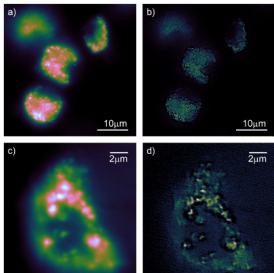

Figure 3. Fluorescence imaging of 90 nm nanodiamond in monocyte-derived macrophages. The nanodiamonds
Fig. 4. (a)–(c) Optically sectioned and (d)–(f) conventional images obtained from corresponding images shown in Figs. 3(d)–3(f) by post-processing with Eqs. (1) and (2), respectively. These are at different axial positions of (a,d) $\Delta z = 0 \mu\text{m}$, (b,e) $\Delta z = 73.9 \mu\text{m}$, (c,f) $\Delta z = 85.3 \mu\text{m}$, where the axial position of $\Delta z = 0$ is at the plateau ground on the coin and a positive increase in Δz corresponds to going up to the hill of the numerical character of “0”. Scale bar 50 μm .